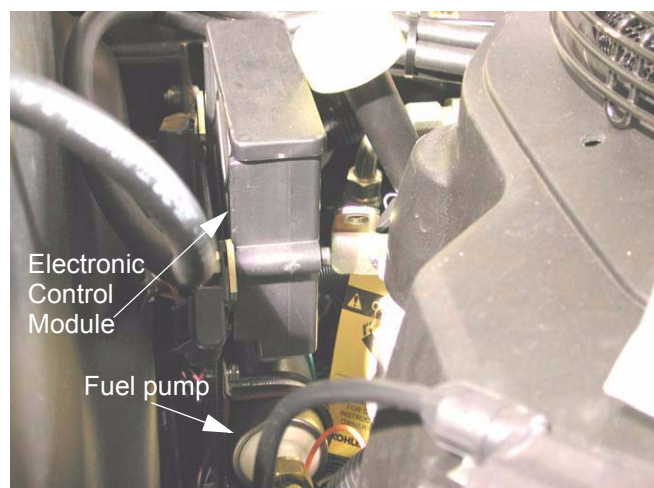

Figure 10.6
10.6. The fuel feed line leads from the tanks and tee down to a high pressure fuel pump located beneath the ECM. See Figure 10.6.